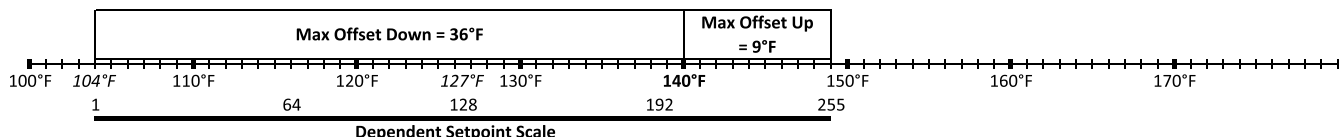

Figure 8.8: Dependent Setpoint
- f. Figure 8.8 illustrates the range defined by the Max Offset Down and Max Offset Up parameter.